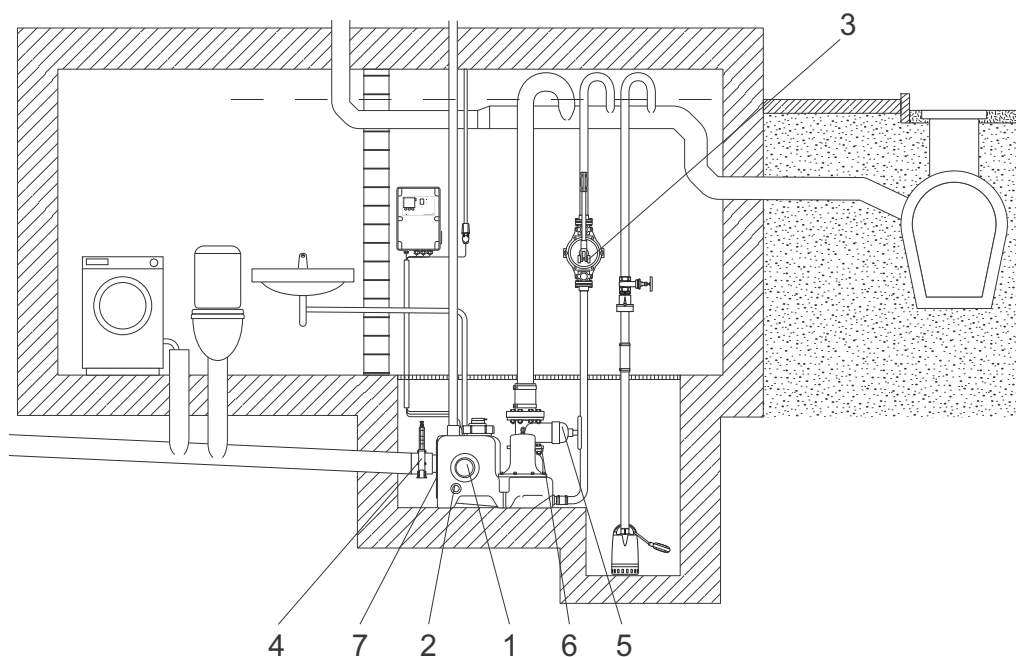

Fig. 15 Installation sketch, Multilift MD
- Provide a pump sump below the floor level. If a lifting station is installed in a basement with the risk of penetrating groundwater, it is advisable (in certain countries required) to install a drainage pump in a separate pump sump below floor level in order to drain the room. See figures 15 and 16.
- All discharge pipes from lifting station, diaphragm pump and drainage pump must have a bend above the local backwater level. The highest point of the bend/reversed water seal must be above street level. See figures 15 and 16.